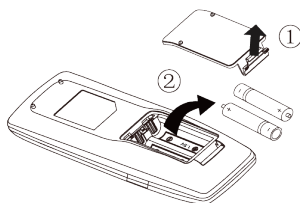

Fig.1
(1) Lift the cover along the direction of arrow (as shown in Fig 1①).
(2) Take out the original batteries (as shown in Fig 1②).